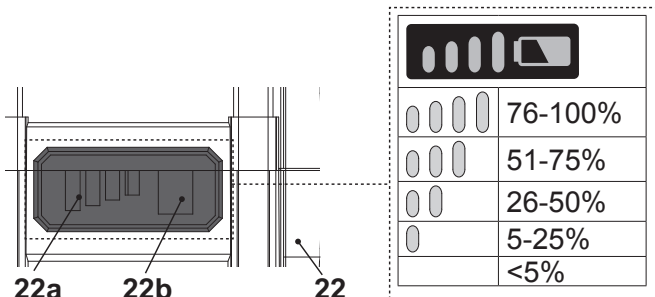

Fig. 11
The battery pack (22) is equipped with the battery capacity indicators (22a) which are used to give an indication of the battery pack's remaining capacity. Press the battery capacity button (22b) to check battery capacity (Fig. 11). The LEDs will stay lit for approximately 5 seconds.